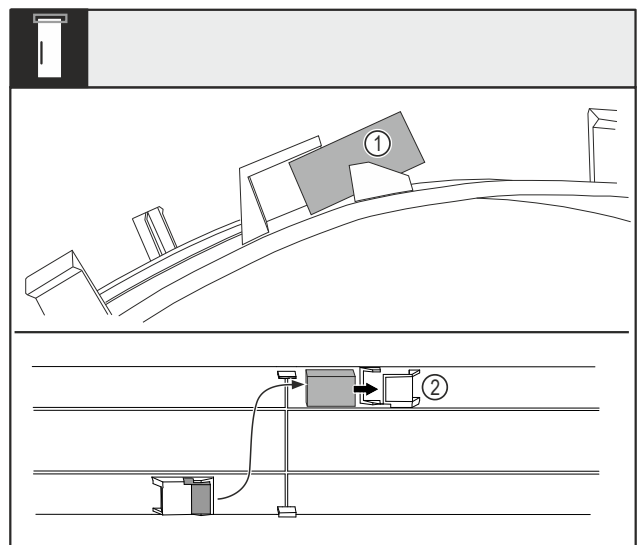

Fig. 16
- Bend the cover and pull the door magnet Fig. 16 (1) out of the retaining clip.
- Insert the door magnet into the other retaining clip Fig. 16 (2).